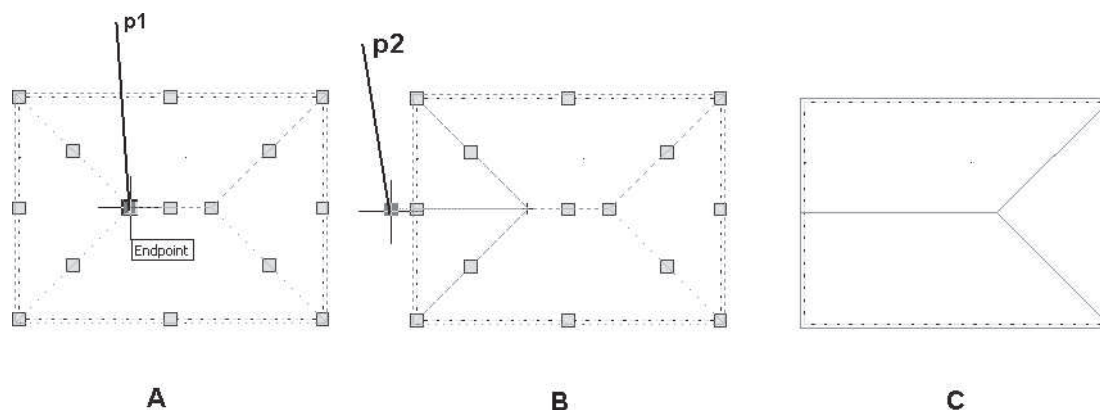

FIGURE 7.15 Editing the grip on the ridge of the roof
2. Select the ridge grip at **p1** as shown in part A of Figure 7.15.
3. Stretch the hot grip to the left and specify the new location by selecting a point to the left near **p2** as shown in part B of Figure 7.15.
4. Press ESC to remove the display of grips. The hip roof plane is converted to a gable as shown in part C of Figure 7.15.